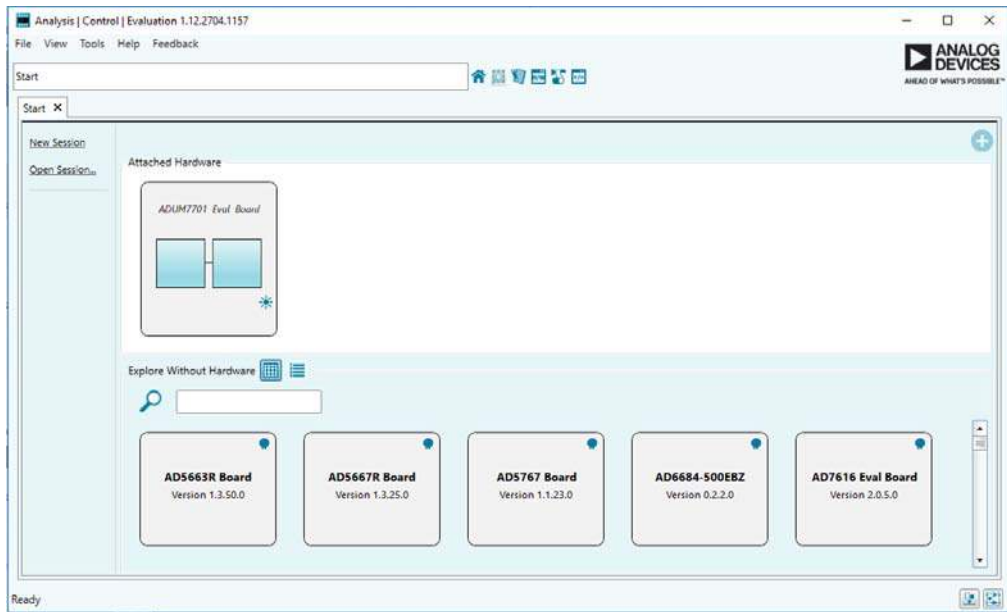

Figure 12. ACE Software Main Window
1. In the **Start** menu of the PC, click **All Programs > Analog Devices > ACE > ACE.exe** to bring up the ACE window shown in Figure 12.